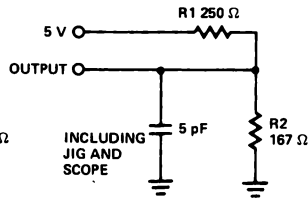

Figure 1b
7. t_{HZCS} is tested with load shown in Figure 1b. Transition is measured at steady state High level - 500 mV or steady state Low level + 500 mV on the output from the 1.5V level on the input.